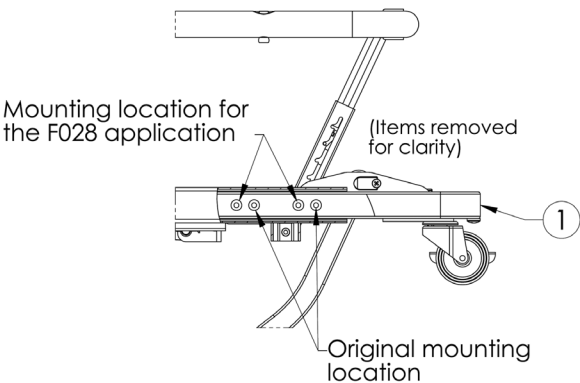

Figure 14
4. Once the panel mount bracket is able to move, locate the holes shown in Figure 14.